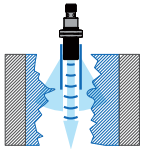

Figure 6 - Applying Ultrasonic Sensor
- Mount the receiver in a waveguide made of highly reflective material and of any length (Figure 6).